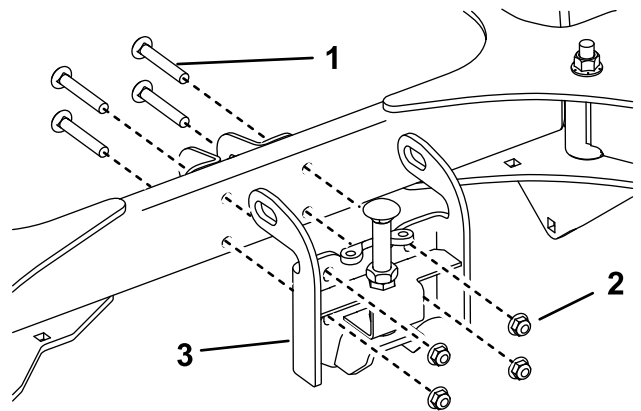

Figure 5
2. Use the fasteners that you just removed to install the snowthrower lock bracket (Figure 5). Torque to 37 to 45 N·m (27 to 33 ft-lb).